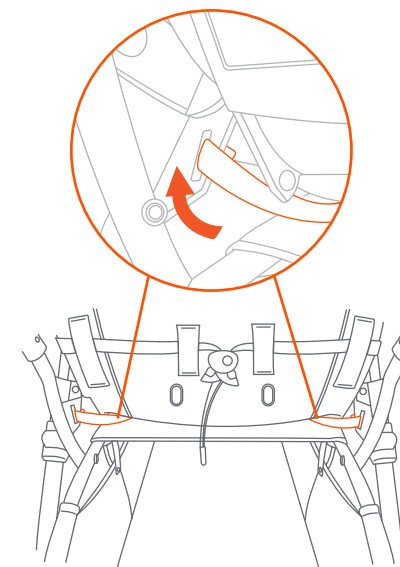

Fig. 9b
**If received unattached, follow below instructions to attach:** Ensure all safety straps underneath rear seat are secured through the appropriate slots (Fig. 9b).